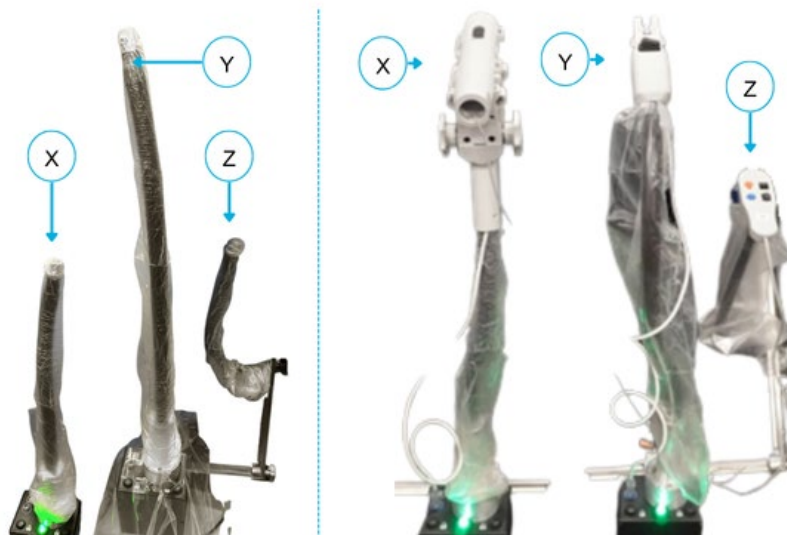

Figure 10-22: Covered Stabilizer Arms with and without Components Attached
24. Cover the TRUS Stabilizer Arm (**X**), Delivery Device Stabilizer Arm (**Y**), and Controller Arm (**Z**) with a sterile sheath prior to attaching sterile components (**Figure 10-22**).